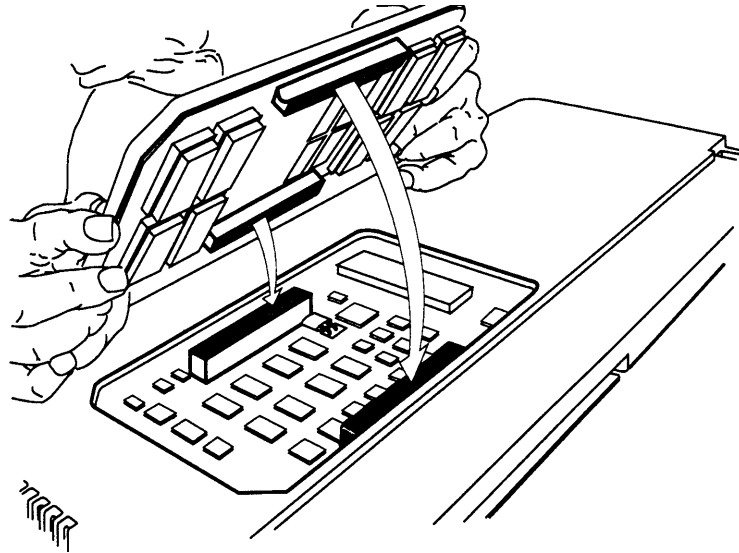

Figure 2-4. Installing the 2.B Feature Module
5. Align the connectors on the 2.B Feature module with the connectors in the Processor module (see Figure 2-4).